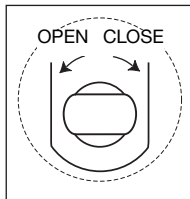

Fig. 2 - Release Valve
4. Using end of pump handle, turn relief valve stem counter-clockwise to open valve (do not turn more than two revolutions). See Fig. 2.